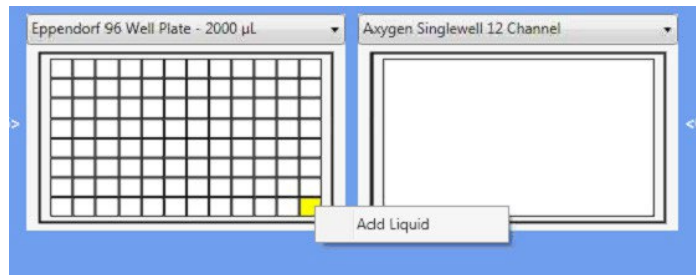

Figure 8-13: Right-click on a cell to add liquid.
- Right-click on the cell you want to add liquid to as shown in Figure 8-13: